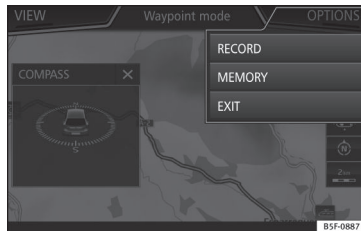

Fig. 171 Offroad Navigation Menu start
- The Offroad Navigation menu opens >>> Fig. 171.